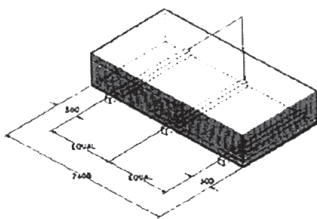

Fig 1. Ensure that the gluts run the full pack width
- Bearers or gluts must be of uniform thickness and must extend across the full width of the stack. See Fig 1.